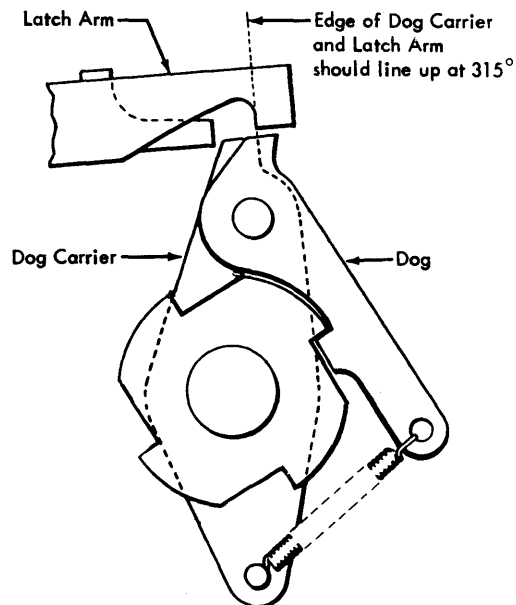

Figure 4-19. Punch Clutch Timing
In order to synchronize the 4-tooth clutch to the index, crank the machine to between 230° and 300° before tripping clutch (Figure 4-19), and:
2. The timer must be set at $315^{\circ} \pm 1/2^{\circ}$ which is clutch latching time. This is determined by the faces of the dog carrier and latch arm aligning with each other (Figure 4-19) when the dog is engaged and the armature attracted.